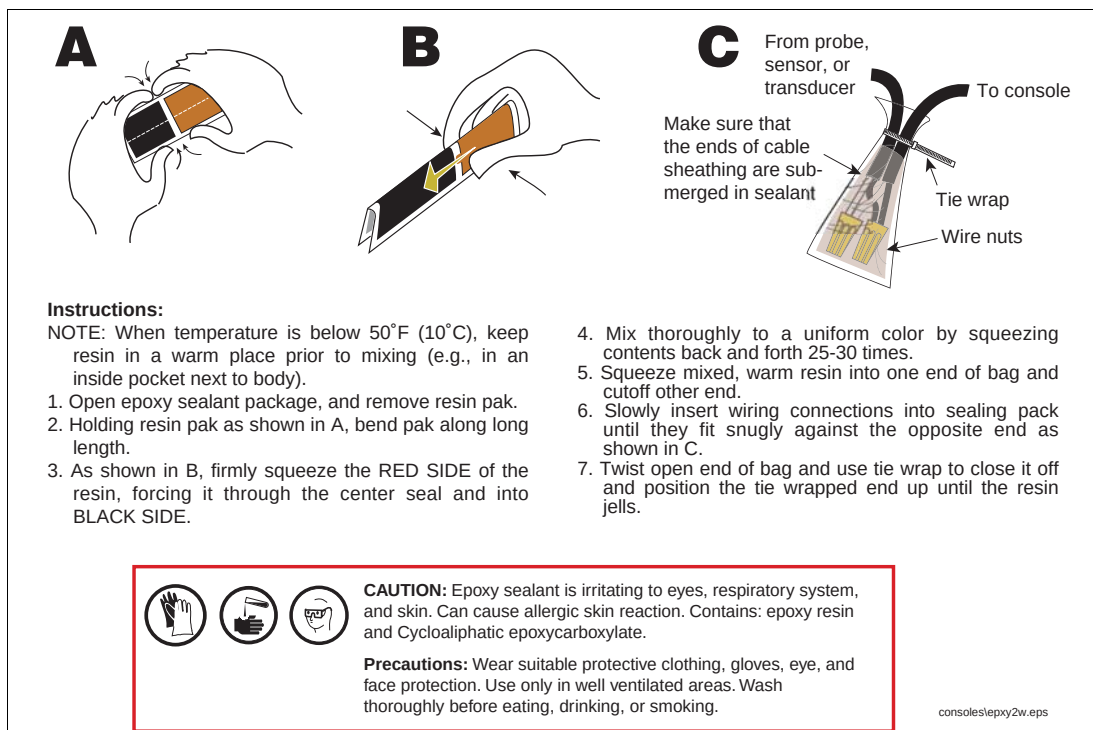

Figure 5. Epoxy Sealing Two-Wire Connections
5. Seal wire nuts with epoxy sealant following the instructions in Figure 5.